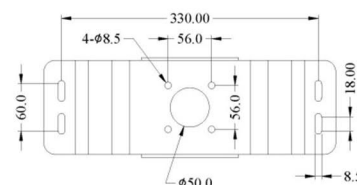

Figure 4
- ☞ Secure the wall mounting bracket to the structure by using four fasteners (not provided). (Figure 4)